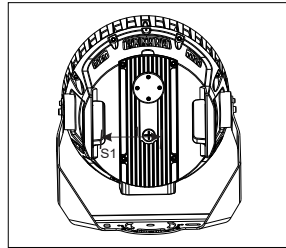

Figure 3
- Mark the hole distance S1 as shown in the product to be installed (Figure 3).